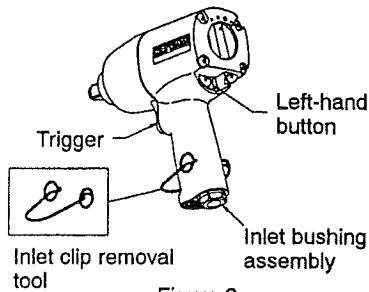

Figure 6
NOTICE: For ease of disassembly, we recommend using the Inlet Clip Removal Tool (43). See Figure 6.